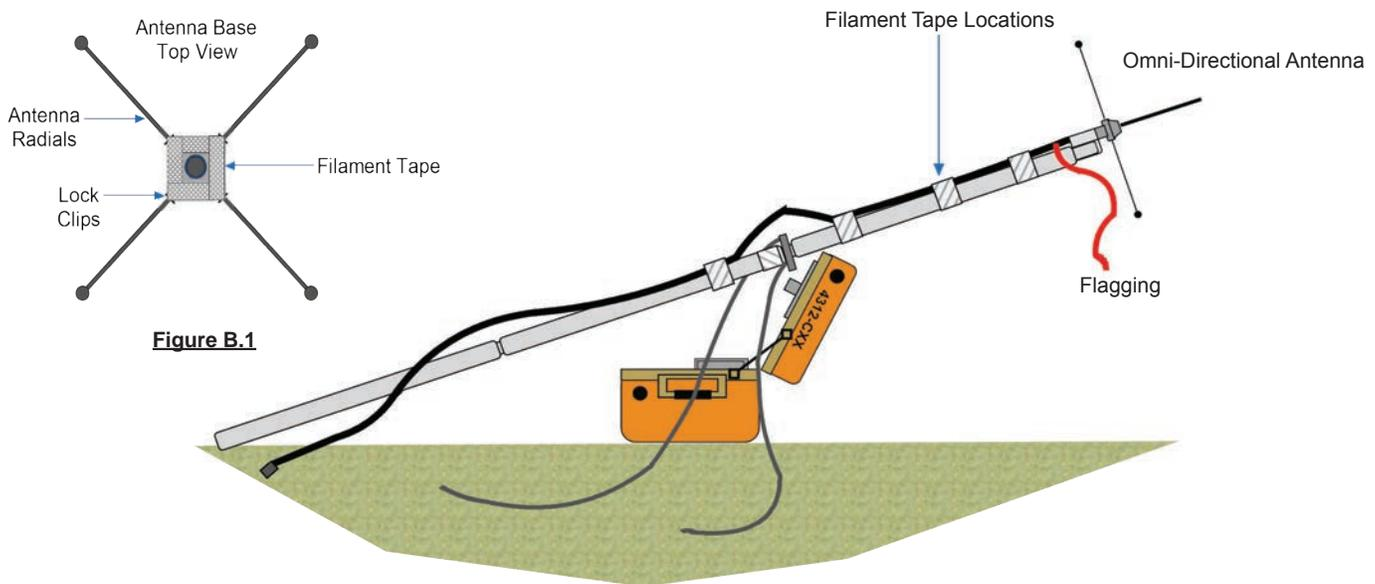

Figure B.1
6. Wrap filament tape around the plastic locks to keep them from sliding out during high winds. **(See Figure B.1)**
7. Connect the coax to the antenna base and secure the coax to the mast at four (4) places with filament tape, 12 inches below the top of the mast and 12 inches above and below the guy collar, with a loop around the guy collar to prevent chafing the coax. **(See Figure B)**